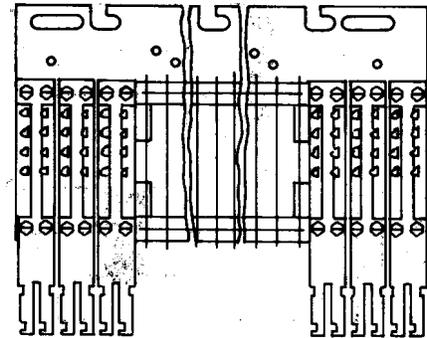

Fig. 10—444C Jack
2.08 444C: (A&M only.) This apparatus should be ordered only for additions or maintenance of existing equipment arranged for this type of apparatus. This multicontact jack (Fig. 10) is used in central offices located in areas where incoming circuits are